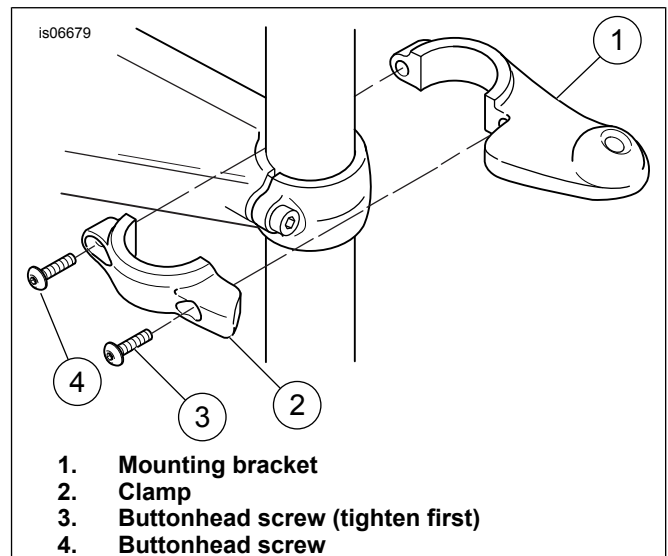
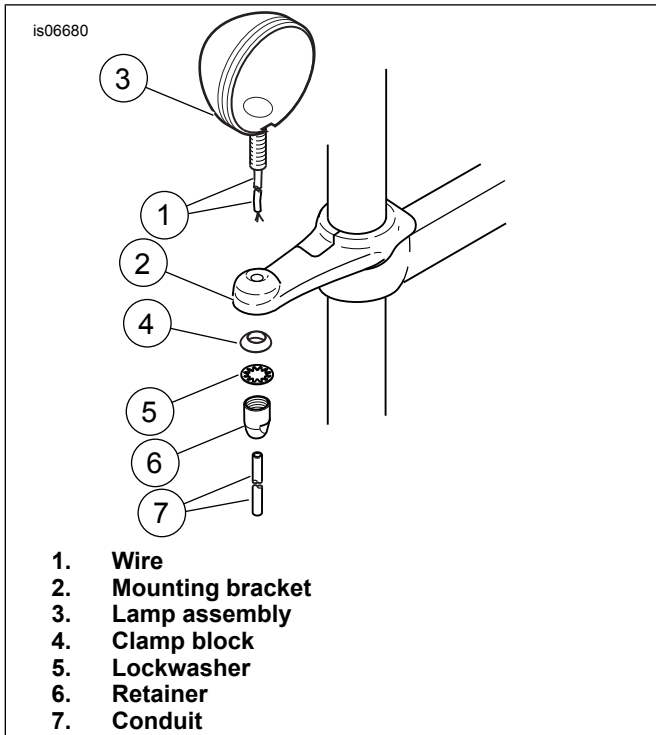

Figure 1. Install Mounting Bracket on Fork Tube (Right Side Shown)
Figure 2. Install Lamps (Right Side Shown)
4. See Figure 1. The mounting brackets (1) and clamps (2) are side-specific. Select the right-hand or left-hand bracket and clamp, and install on the fork tube with two button-head screws (3 and 4) from the kit.
5. Starting with the outer screw (3), tighten to 8–9 N·m (70–80 in-lbs). Repeat for screw (4).
6. See Figure 2. Route the lamp wire (1) through the hole in the mounting bracket (2), and secure the lamp (3) to the bracket using a clamp block (4), lockwasher (5) and retainer (6) from the kit. Tighten the retainer to 16-18 ft-lbs (22-24 Nm).
10. See Figure 2. Slide the conduit (7) from the kit over the lamp wire.